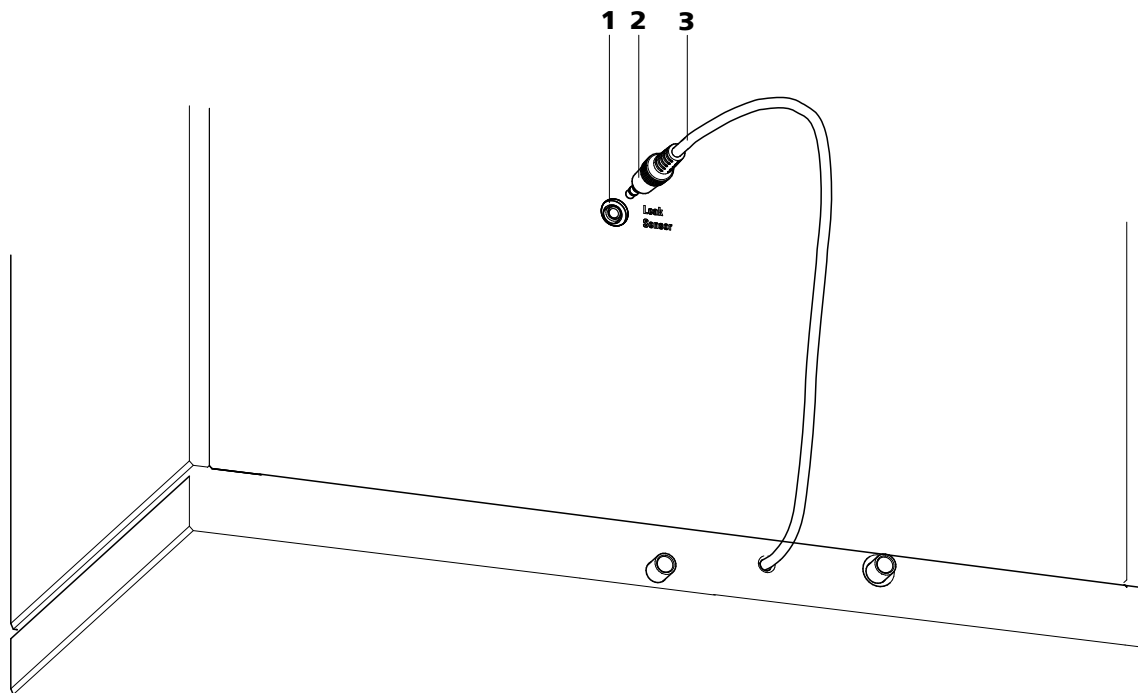

Figure 6 Connection of the leak sensor on the rear of the instrument
- 1 Plug the leak sensor connector plug (6-2) into the leak sensor connection socket (6-1) on the rear of the instrument (*see figure 6, page 18*).